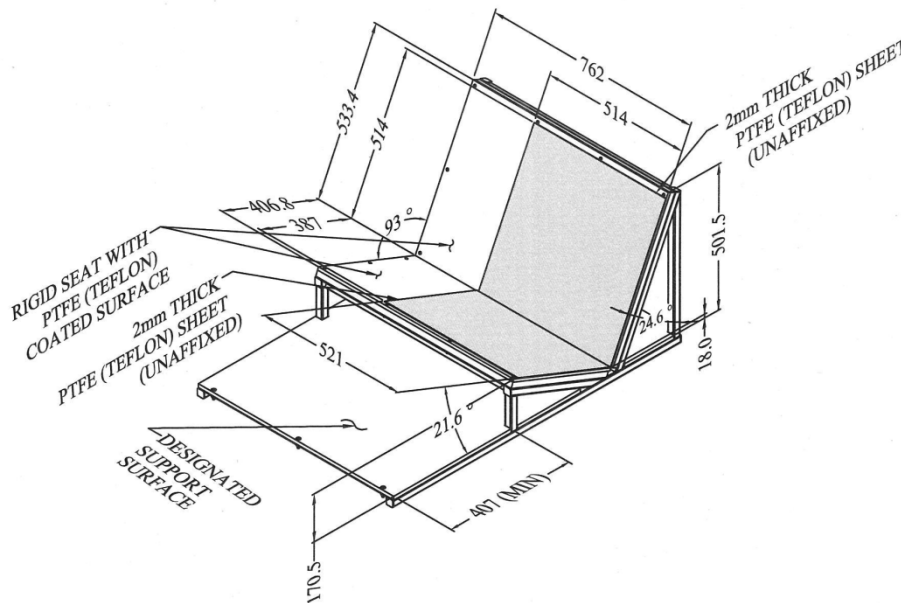

Figure 103. Qualification bench seat specifications for Q3s qualification tests
- To prepare to install the Q3s positioning tool³⁰ (Figure 103) between the dummy's knees, push the femurs and tibias downward so that the legs make full contact with the test surface.